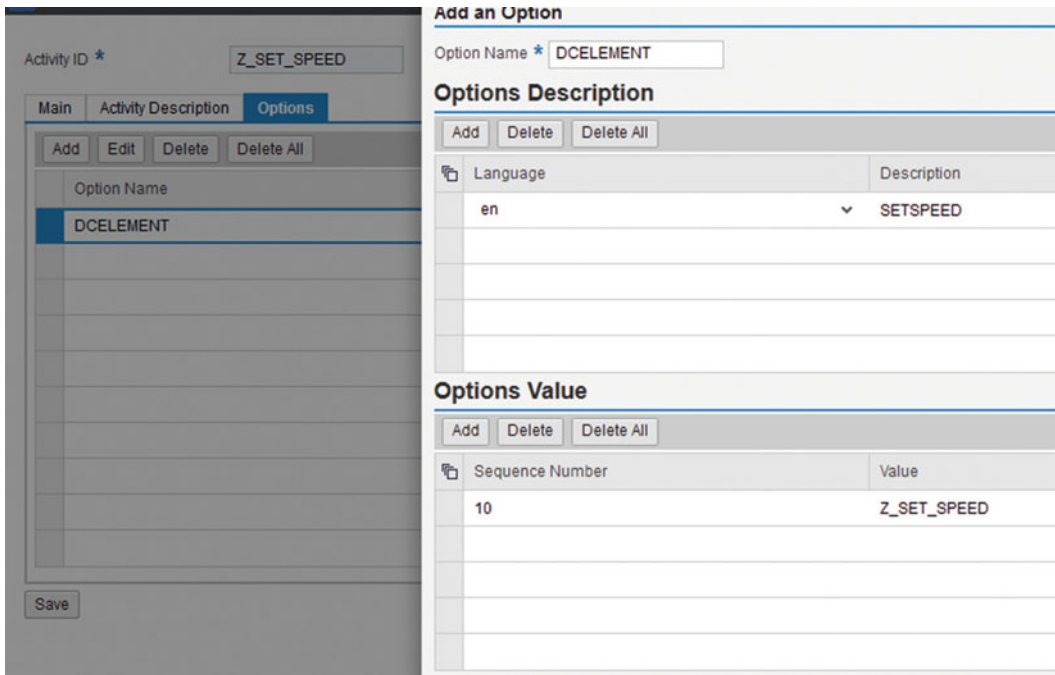

Figure 5-25. Activity configuration: Option tab
5. On the Options tab, choose Add to enter the option name, option description in the required languages, and the option values, as shown in Figure 5-25.